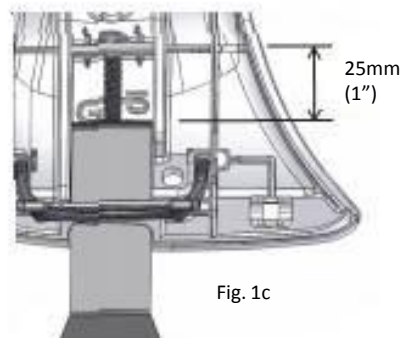

Fig. 1c
5. Leave approximately 1" (25mm) of gap between the top of the Strap and the bolt head. This will aid in installation to the door frame. (Fig. 1c)